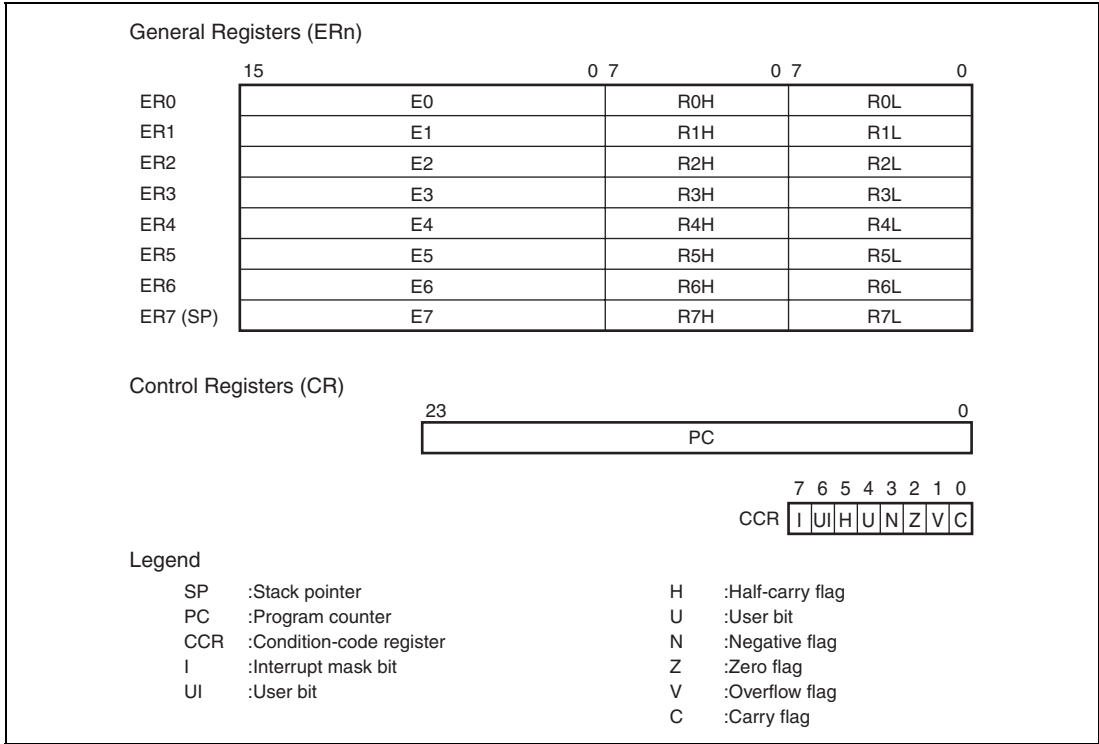

Figure 2.2 CPU Registers
The H8/300H CPU has the internal registers shown in figure 2.2. There are two types of registers; general registers and control registers. The control registers are a 24-bit program counter (PC), and an 8-bit condition code register (CCR).